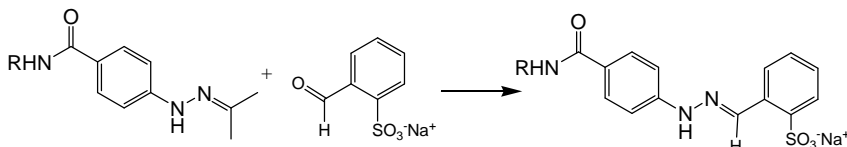

Figure 2: Colorimetric reaction used to quantify number of HyNic linkers on a biomolecule
The number of HyNic linkers incorporated on biomolecules can be quantified colorimetrically on reaction with 2-sulfobenzaldehyde (Solulink catalog# S-2005-100). The product yields a chromophore that absorbs at A350 with a molar extinction coefficient of 18000 (Figure 2).
1. The molar substitution ratio (MSR) can be determined using a colorimetric reaction with 2-sulfobenzaldehyde, as outlined in Figure 2. Addition of 2-sulfobenzaldehyde to a HyNic-modified biomolecule yields an aromatic molecule that absorbs at 350 nm. Refer to the HyNic-Protein Colorimetric MSR Calculator as well as the protocol that is appropriate for your lab equipment: HyNic Colorimetric MSR Assay Protein Nanodrop Method Protocol, HyNic Colorimetric MSR Assay Protein Spectrophotometer Method Protocol.